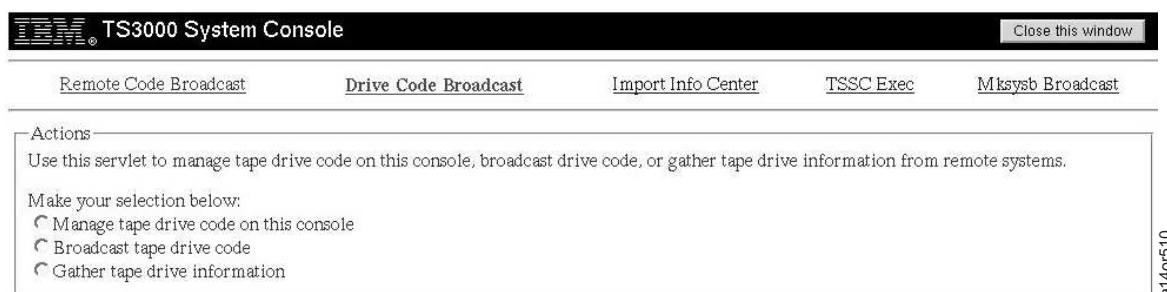

Figure 165. Drive Code Broadcast Web Interface
- Select **System Tools > Drive Code Broadcast**. You see Figure 165.